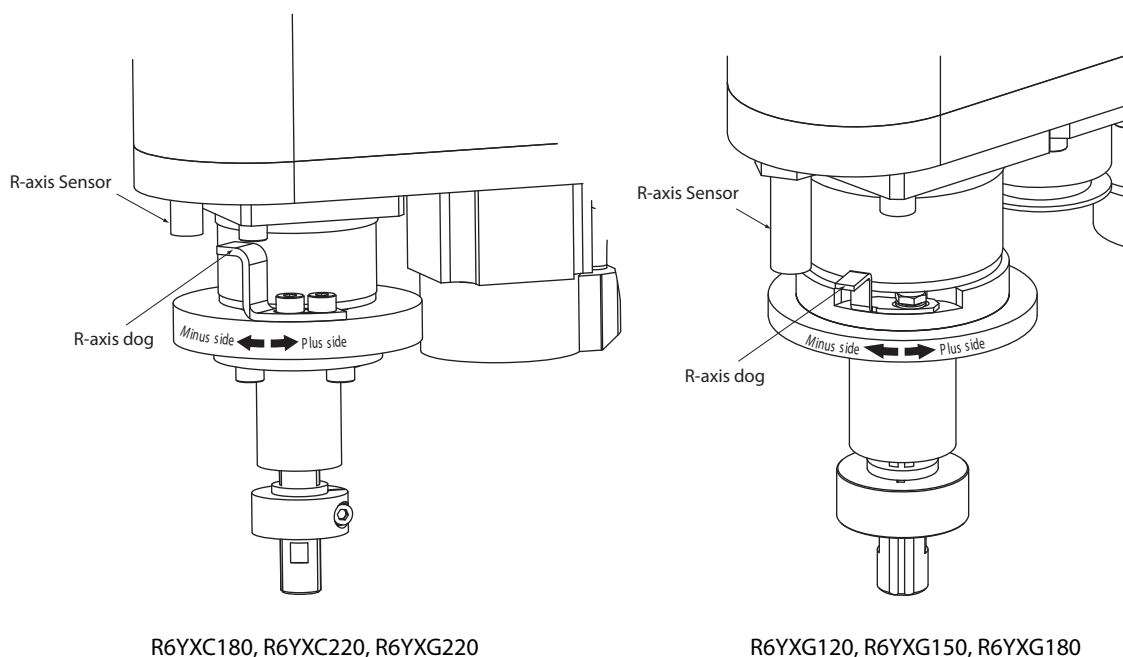

Fig. 4-4
THE ORIGIN CANNOT BE DETECTED IN ANY AXIS WHICH IS NOT POSITIONED ON THE PLUS SIDE FROM THE ORIGIN (SEE FIG. 4-4.) BEFORE STARTING THE RETURN-TO-ORIGIN OPERATION. (FACTORY SETTING AT SHIPMENT.)
- 6) Confirm that the R-axis, to perform absolute reset, is at a position on the plus side of the origin (See Fig. 4-1, Fig. 4-4).